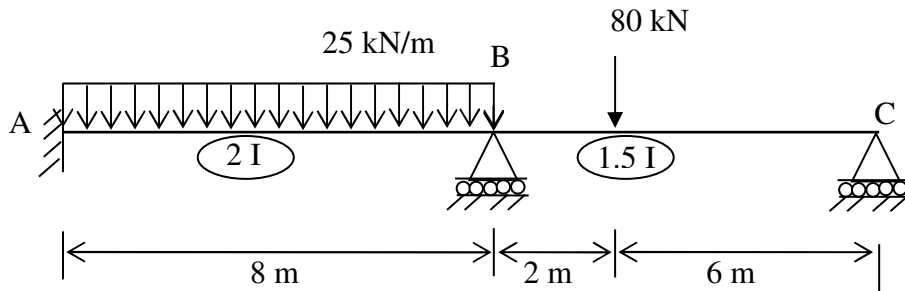

Fig.4
6. Analyse the continuous beam shown in **Fig.4**, using Flexibility method, and draw shear force and bending moment diagrams. During loading, the support C sinks by 15 mm. Locate and find the distances of the points of contra-flexure from supports. Draw elastic curve. Also find the maximum moment. Take $EI = 5500 \text{ kNm}^2$.